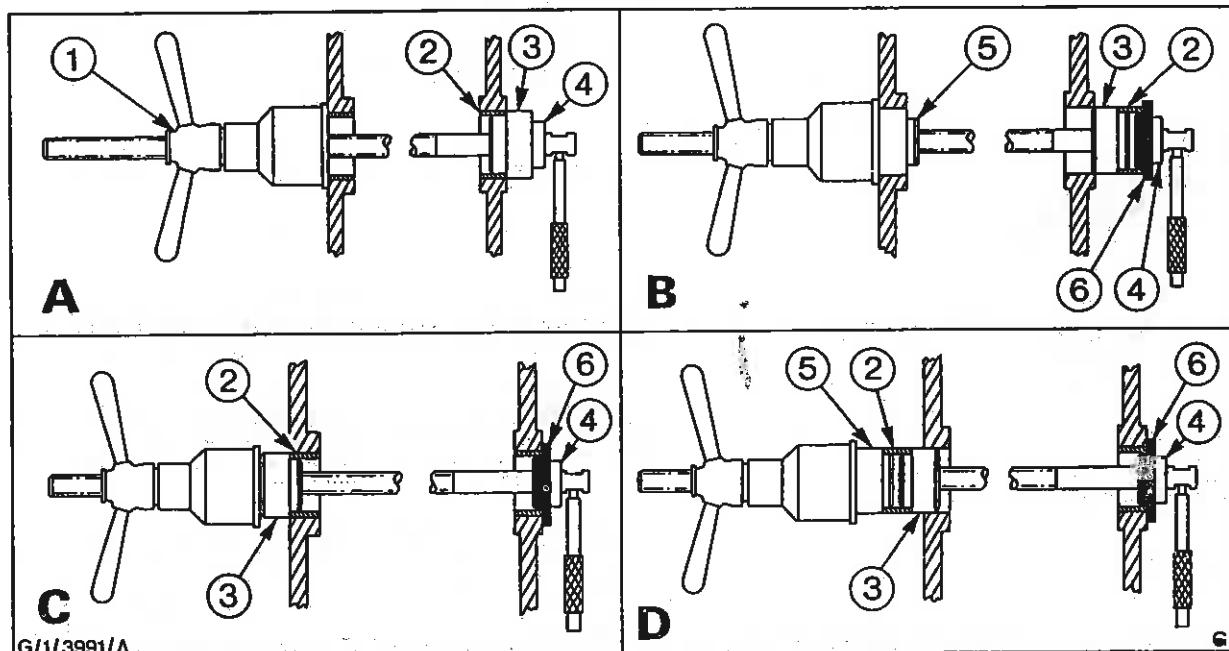

Fig. 38 - Camshaft Bearing Renewal
3. Remove the camshaft bearing bushes using Special Tool No. (21-022) and Adaptor Kit (21-022-51A and 21-022-53). Select the stepped cylindrical adaptor whose small end will spigot into the bearing bush (see illustration Fig. 38).